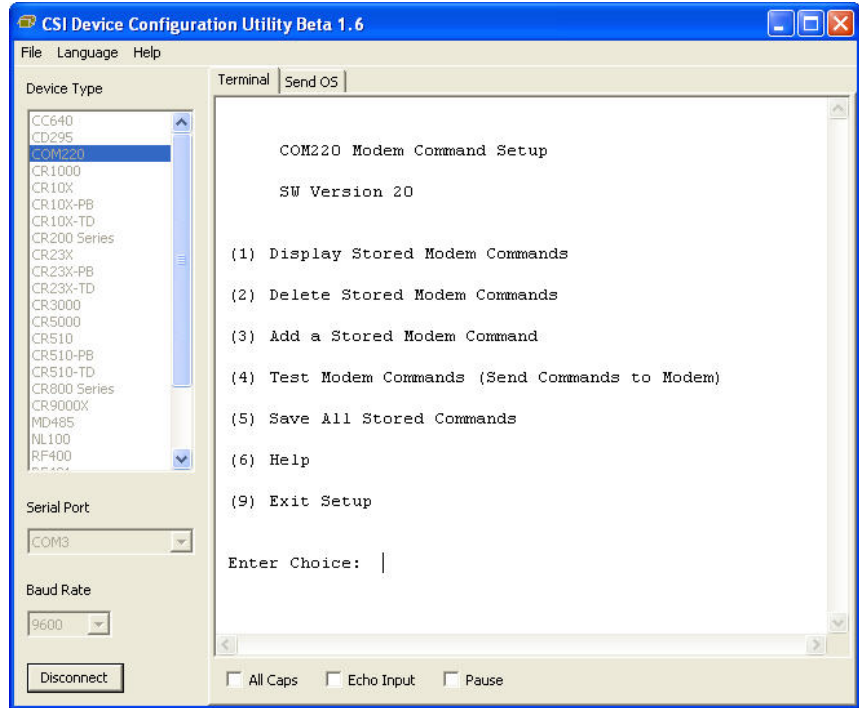

FIGURE A-3. Terminal Emulator screen in Device Configuration
- 7) Follow the instructions that appear in the terminal emulator screen (FIGURE A-3).